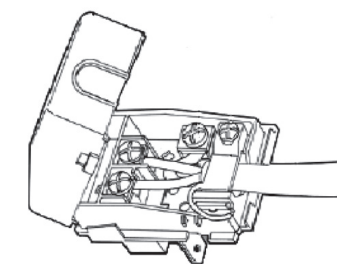

Fig. 4
- Insert the cable in the cable clamp and connect the wires to the terminal board (Fig. 4).